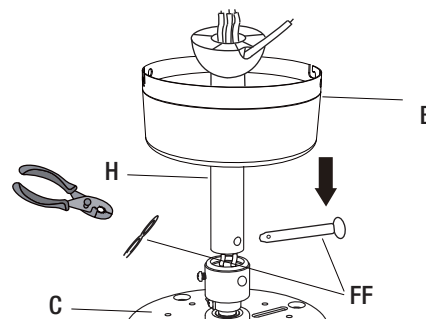

Figure 4
- Remove the split pin and pivot pin (FF) from the loose part bag and set them aside for later restoration.
- Place the downrod assembly (H) through the ceiling canopy (B) and insert the motor wires through the downrod assembly (H) (Figure 4).